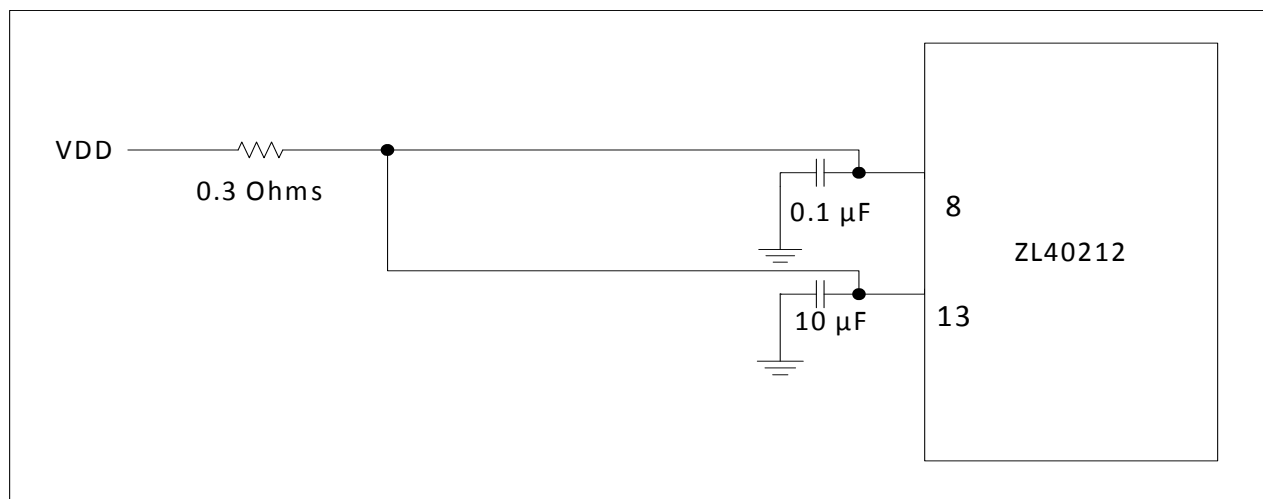

Figure 18 - Decoupling Connections for Power Pins
For optimal jitter performance, the device should be isolated from the power planes connected to its power supply pins as shown in Figure 18.
- a 0.3 ohm resistor is recommended for the filter shown in Figure 18
The power nets in Figure 18 can be implemented either as a plane island or routed power topology without changing the overall jitter performance of the device.